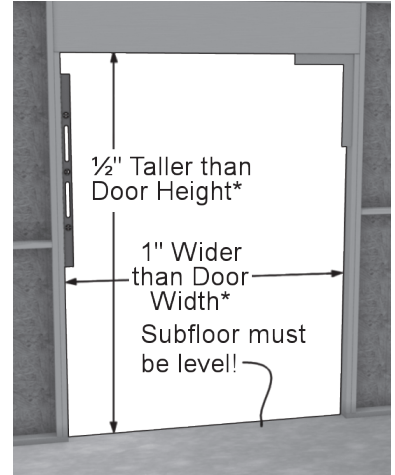

Figure 1
**1a) (Required)** The Rough Opening should be level, plumb, and square, including the subfloor. Dimensionally, it should be 1/2" taller and 1" wider than the frame dimension of the door, excluding the nailing fins (See figure 1). Note that each horizontal mull adds 1" to the vertical dimension, and each vertical mull adds 1" to the horizontal dimension of the combination.